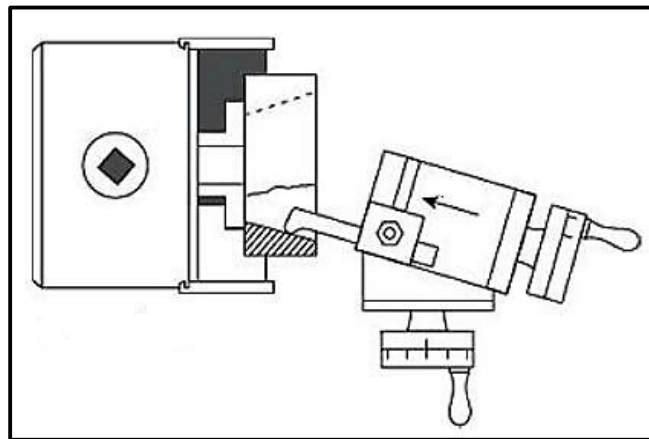

FIGURE 4.1
4.1 Identify the lathe procedure shown in FIGURE 4.1 below.